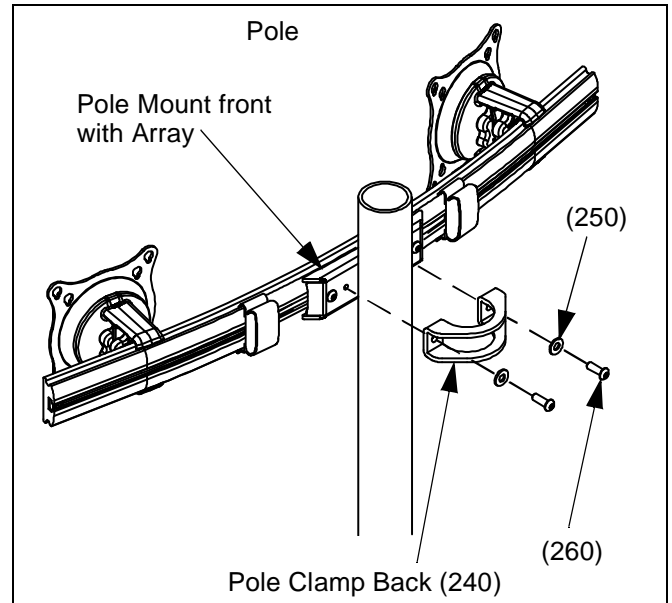

Figure 5: Assemble Array Rail to Pole
2. Assemble pole clamp back (240) to pole mount front using two FW (250) and two BHCS (260) using a 5/32" hex key. (see Figure 5)
3. Secure pole mount back (240) to pole mount front and pole by tightening two BHCS (260) using a 5/32" hex key.